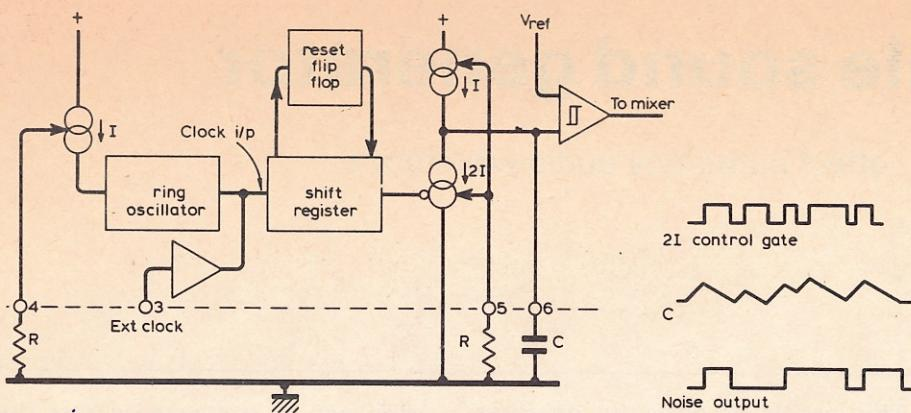

Fig. 4. Noise generator and low pass filter. The nominal resistor value at pin 4 is  $47\text{k}\Omega$  although this can be increased to  $100\text{k}\Omega$ .
**The noise generator** is formed by a ring oscillator, shift register, and a low-pass filter as shown in Fig. 4. The oscillator frequency is controlled by an external resistor at pin 4, and can be inhibited by taking pin 4 to +5V. In this case an external 5V pk-pk oscillator can be fed into pin 3 and used to clock the shift register. This technique is useful if a slower or more precise clock is needed. The shift register produces pseudo-random white noise which is passed through a variable bandwidth low-pass filter, with a 3dB frequency of  $1.28/\text{RC}$ . If filtering is not required, the capacitor at pin 6 can be omitted, but a resistor of at least  $4.7\text{k}\Omega$  must be left at pin 5.